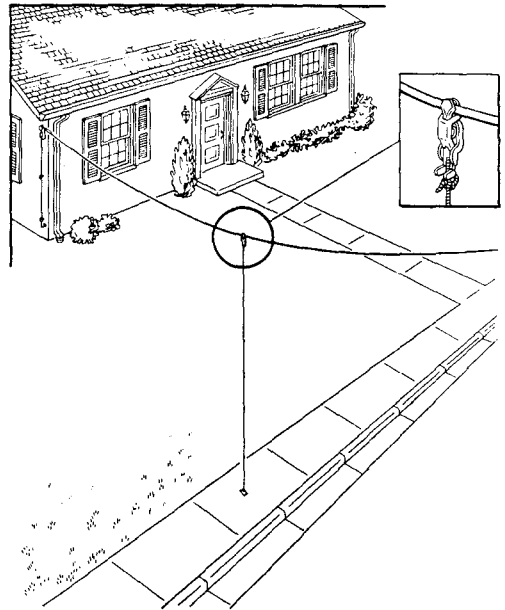
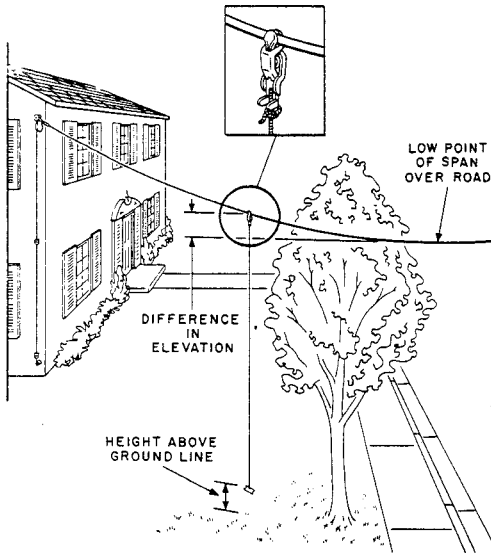

Fig. 13—Measuring New Drop With Clearance Measuring Line
Fig. 14—Measuring New Drop With Obstructions in the Way
4.03 Attach drop wire to building. Unwind line from bobbin and attach clip at a point on the drop wire where the line will not interfere with pedestrian or vehicular traffic, or become entangled in trees. Make attachment to pole, applying sufficient tension to obtain proper sag, using the Clearance Measuring Line to obtain required road clearance (Fig. 13). If, because of traffic or trees, the clip cannot be attached to the low point of the span across a road, estimate the difference in elevation and pull the drop wire up until the bobbin is at least an equivalent distance above ground (Fig. 14).